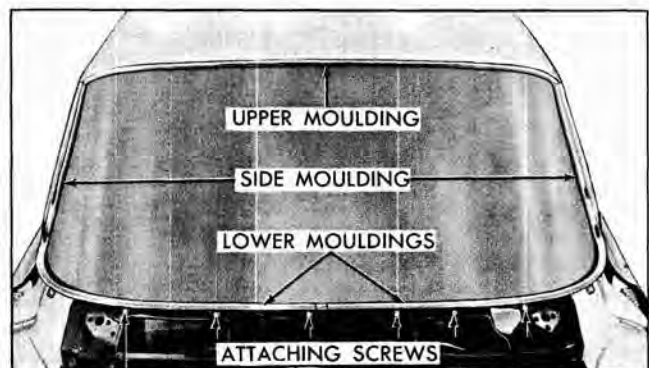

Fig. 2-4 Windshield Reveal Moldings
5. Remove lower reveal molding attaching screws (Fig. 2-4) and remove the molding.